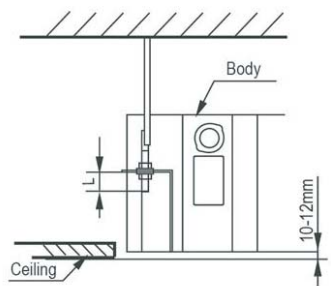

fig. 6
- Adjust the position to ensure the gaps between the body and the four sides of ceiling are even. The body's lower part should sink into the ceiling for 10~12 mm (refer to fig.6).
- In general, L is half of the screw length of the installation hook.(refer to fig.6)